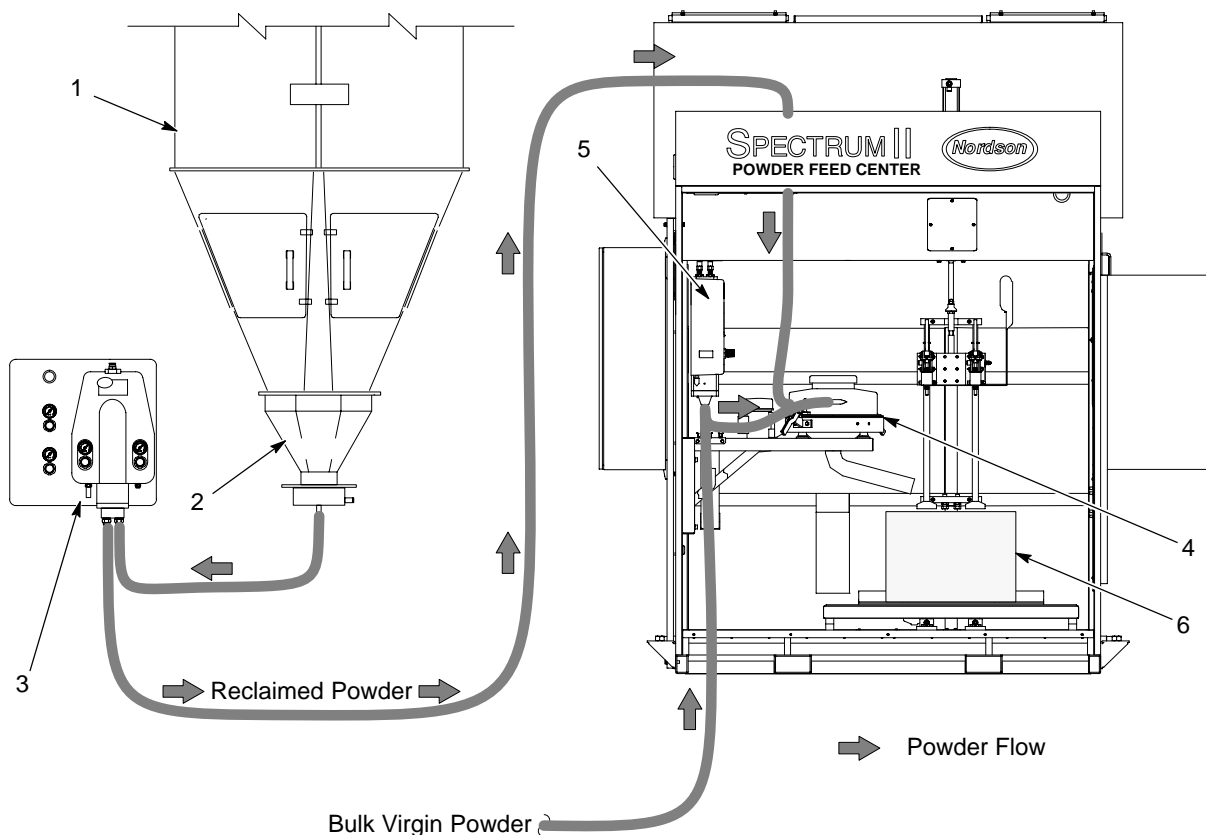

Figure 2-2 HDLV Transfer System Operation
See Figure 2-2. As oversprayed powder is reclaimed by the cyclones (1), it falls into the transfer pan (2). The transfer pan fluidizes the reclaimed powder, allowing the reclaim pump (3) to draw the powder out of the transfer pan and send it to the sieve (4). The reclaimed powder is sieved and returned to the feed source (typically a rectangular hopper) in the powder feed center.
See Figure 2-2. Keep the suction and delivery tubing under the following lengths to maintain optimum powder delivery. For best results, keep the suction and delivery tubing as short as possible.